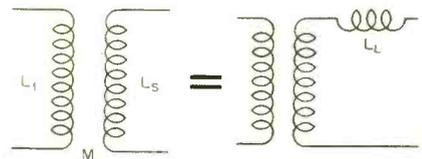

FIG. 3
**Problem 3:** In a transformer (Fig. 3) having a coefficient of coupling K, mutual inductance M, primary inductance